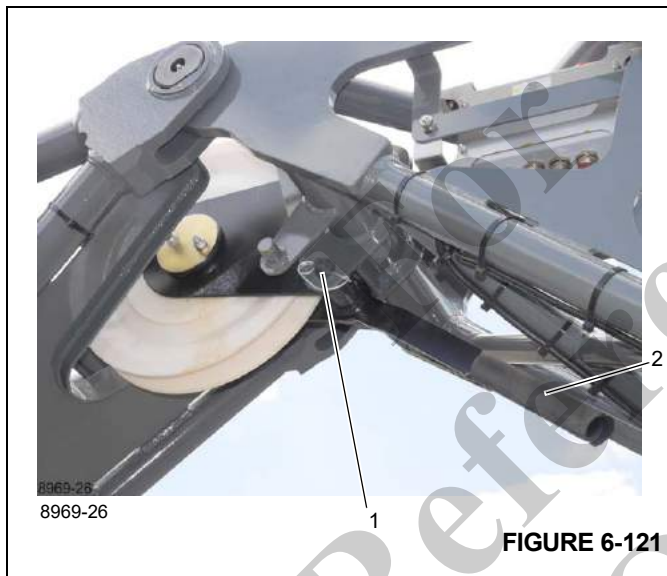

FIGURE 6-121
1. Remove the retaining clip from the pin (1), (Figure 6-121).